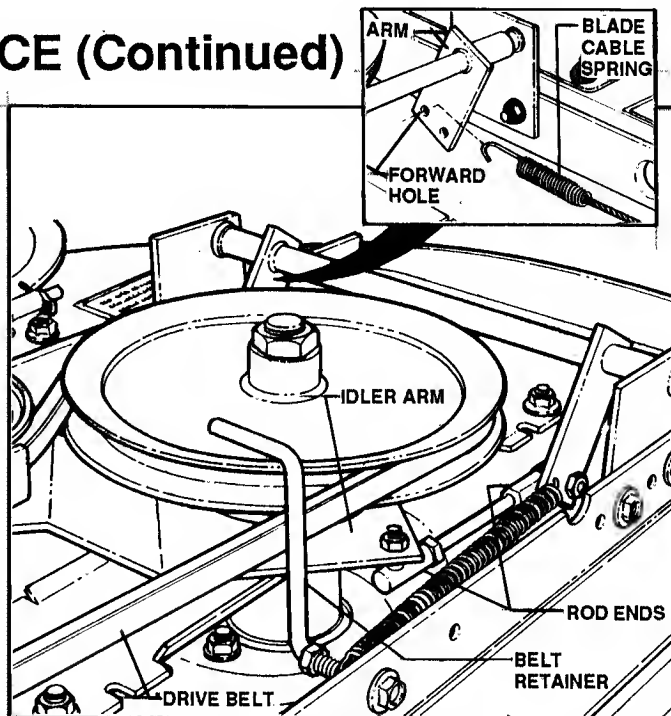

FIGURE 20
3. Remove BLADE CABLE SPRING from hole in CROSS SHAFT. See inset in Figure 20.
WHEN INSTALLING BLADE CABLE SPRING, MAKE SURE SPRING IS ATTACHED IN FORWARD HOLE OF ARM. (REFER TO FIGURE 20).